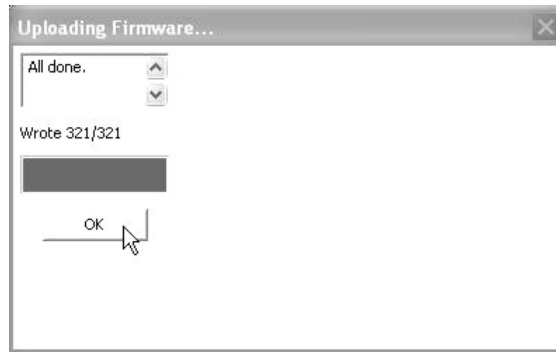

Figure 15: Upload Firmware Window
2. Select the file and click OPEN and you should see the progress as shown in Figure 15. The 928A displays “FLASH PROGRAM IN PROGRESS” during the installation. Click OK when finished.